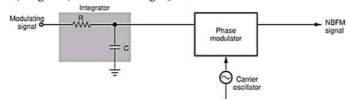

Fig. Q.38.2
• Thus, to suppress high frequency modulating signals and to make frequency deviation independent of modulating frequency the modulating signal is passed through a low pass RC filter (integrator) as shown in Fig. Q.38.2.